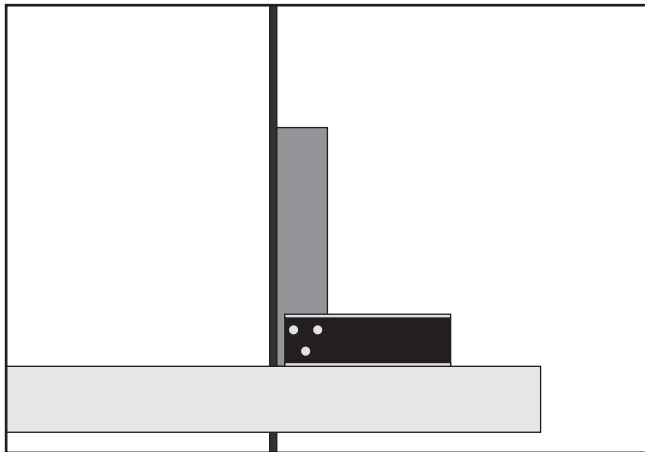

Figure 26. Squaring table to blade.
5. Raise the upper blade guide assembly and place a 6" machinist's square or try-square on the table next to the side of the blade, as illustrated in **Figure 26**. Adjust the positive stop bolt to raise or lower the table until the table is 90° to the blade.